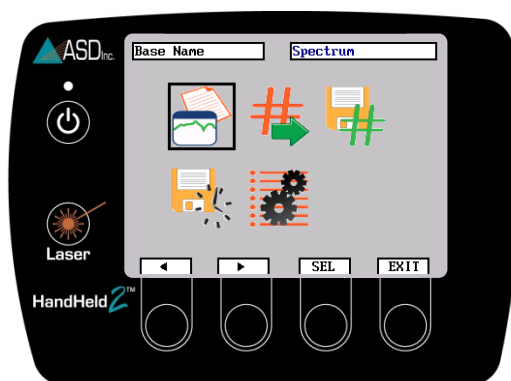

Figure 2-25: File Save submenus
The File Save Menu contains five submenu icons (Figure 2-25):
- Step 1 Navigate to the File Save Menu icon and press the *SEL* button (Figure 2-25).
- Step 1 Navigate to the File Save Menu icon and press the *SEL* button. (Figure 2-25).